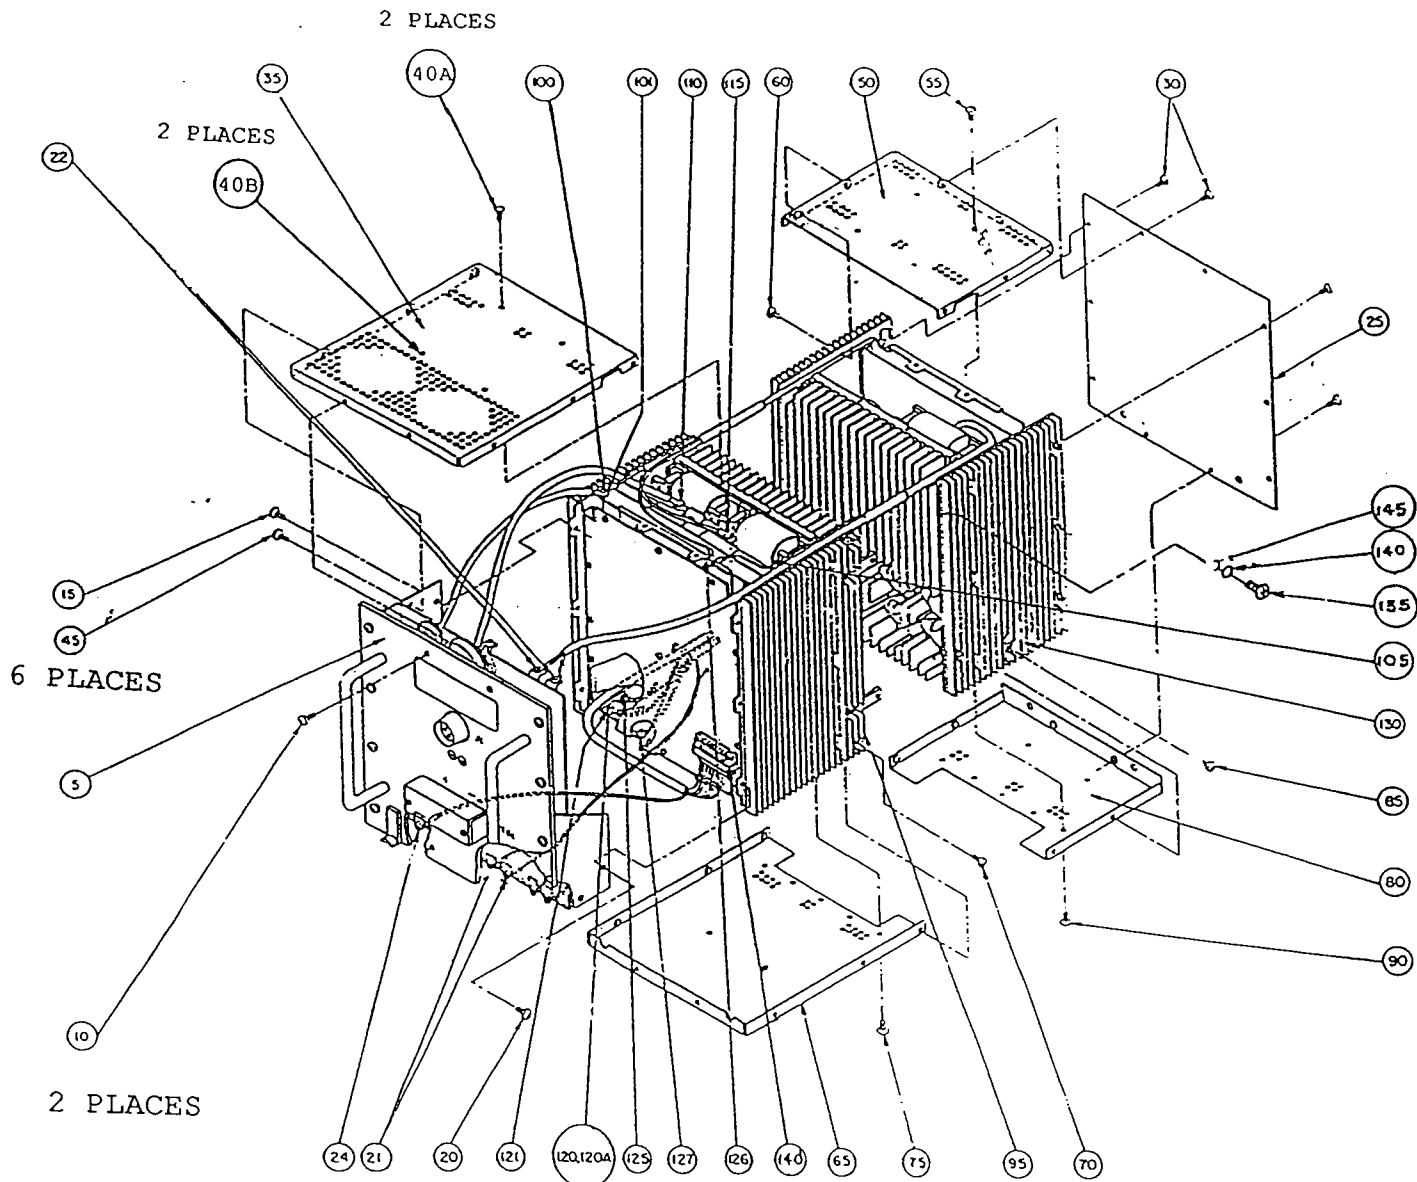

FIGURE 1
1. Remove four (4) screws securing top cover, two (2) of item 40A and two (2) of item 40B on figure 1.
2. Remove eight (8) screws from the front and side panels securing top cover, two (2) of item 10 and six (6) of item 45 on figure 1.
3. Carefully pry off top cover, item 35 on figure 1.